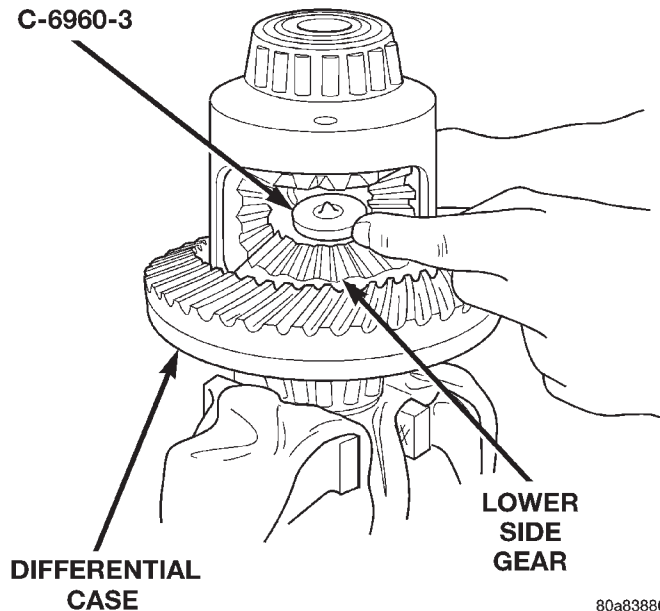
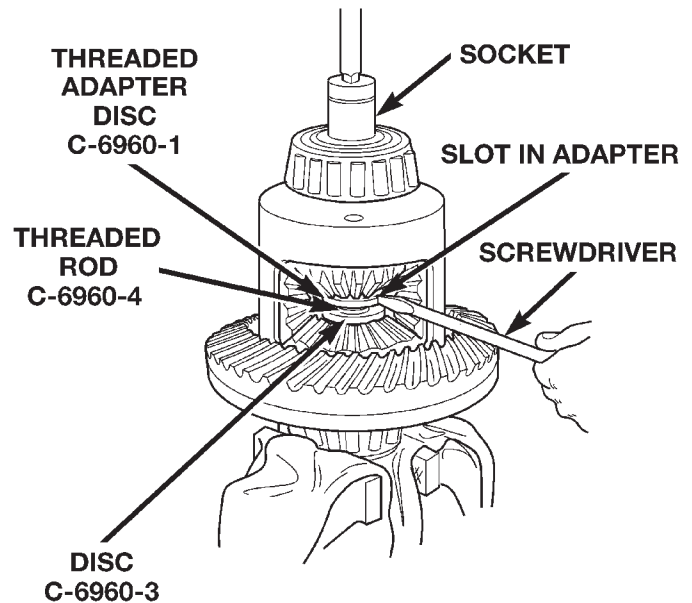

Fig. 55 Step Plate Tool Installation
Fig. 56 Threaded Adapter Installation
(6) Install and lubricate Step Plate C-6960-3 (Fig. 55).
(7) Assemble Threaded Adapter C-6960-1 into top side gear. Thread Forcing Screw C-6960-4 into adapter until it becomes centered in adapter plate.
(8) Position a small screw driver in slot of Threaded Adapter C-6960-1 (Fig. 56) to prevent adapter from turning.